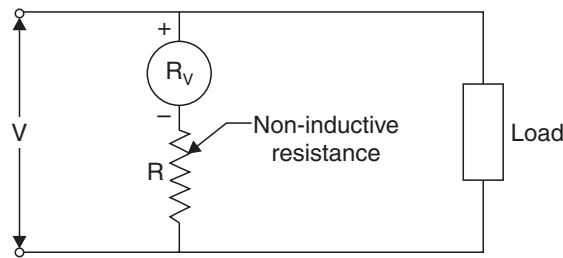

Fig. 14
2. Voltmeter multipliers. The range of the instrument, when used as a voltmeter can be extended or multiplied by using a high non-inductive series resistance R connected in series with it as shown in Fig. 14.